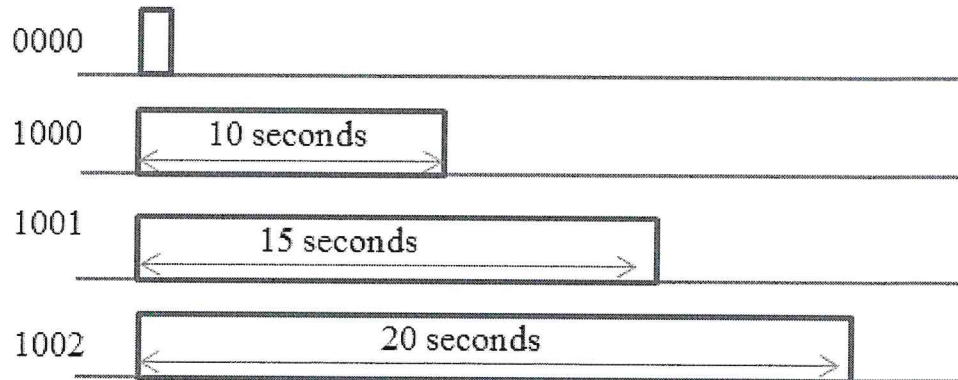

Figure A3(c)/ *Rajah A3(c)*
- (c) By using the basic timer instruction, draw a ladder diagram which would produce a timing diagram as in Figure A3(c)